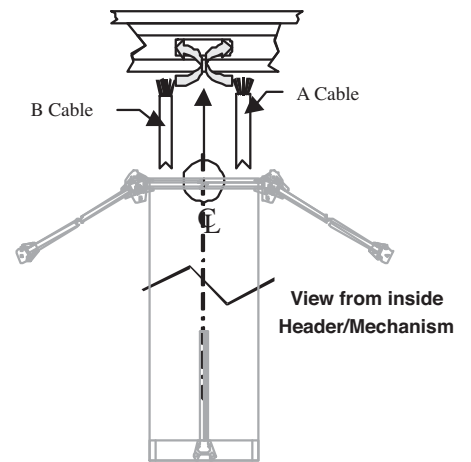

Figure 20 Cable Direction
- Starting from inside the Header/Mechanism, pull or push the appropriate cable to the status indicator lights to be wired as shown in **Figure 20**.